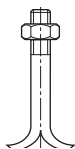

Fig. 8: Anchor bolts
- Fit anchor bolts (see fig. 8) in the provided drilled holes.